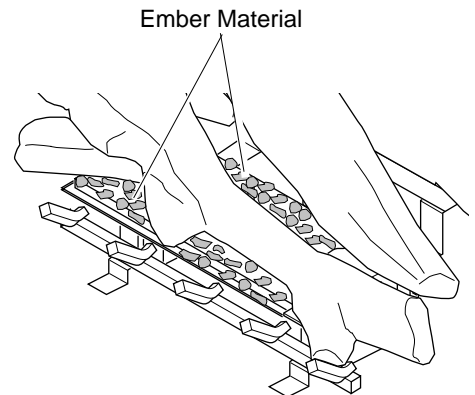

Figure 52 - Placing Ember Material on Burner
5. Pull ember material apart into pieces no larger than a dime. Place these pieces loosely onto the exposed section of the front burner and space between logs 2 and 3 where front burner is exposed (see Figure 52). This will create the glowing appearance as the flame touches the ember material. Do not block ports by using too much ember material in one area. It is not necessary to use all of the ember material provided.